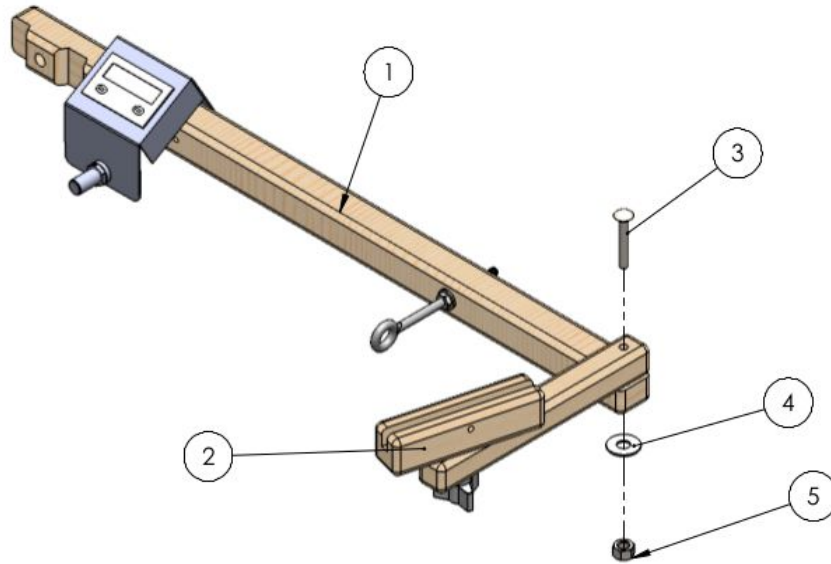

Figure 5 – Raddle Assembly
- 1) Remove the three arm knob, one lock washer, and one flat washer from drum assembly. One flat washer will be left on the drum assembly. (Figure 5)
- 2) From the front, insert the center bolt of the drum assembly through the selected hole on the vertical. (Figure 5)
- 3) From the back, attach the raddle support to the back of the vertical (Figure 5)
- 4) Secure the bolt with a flat washer, then a lock washer, and, finally, the three arm knob -- tighten firmly. (Figure 5)
Mount the Adjustable Raddle Holder (Figure 5)
- 1) Using the 1/4-20 x 2-1/4" carriage bolt (Hardware Pack #3), attach the raddle mount/adjustable raddle holder assembly to the raddle support. Secure with the flat washer and nut. (Figure 5)